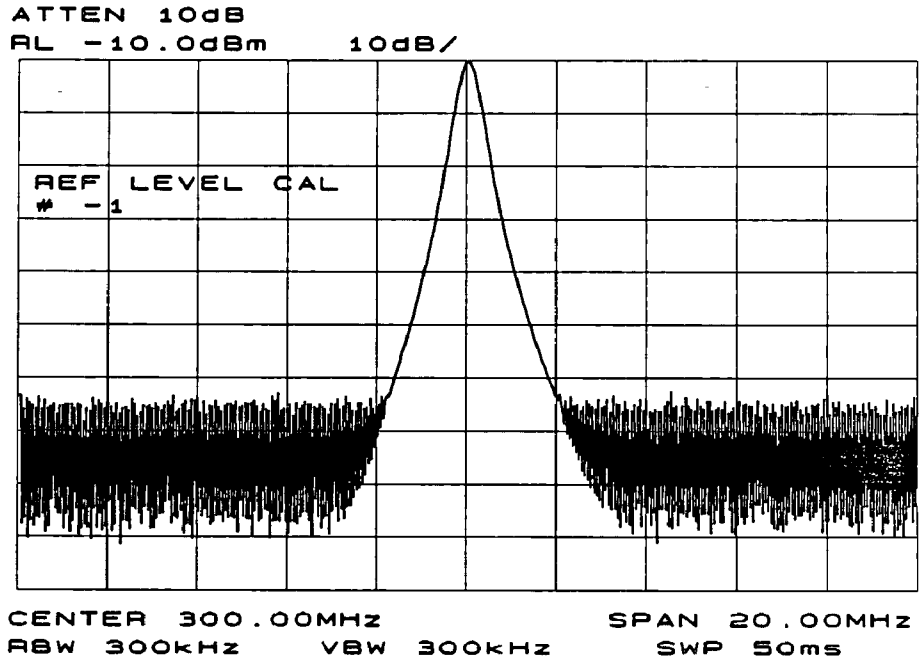

Figure 1-10. Signal Peak Calibrated to the Reference Level
4. Using the front-panel knob, adjust the peak of the signal to the reference level as shown in Figure 1-10. Note the number that appears in the active function block. This number, which ranges from -33 to 33, is a relative number indicating how much amplitude correction was required to calibrate the spectrum analyzer. The number is usually around 0.